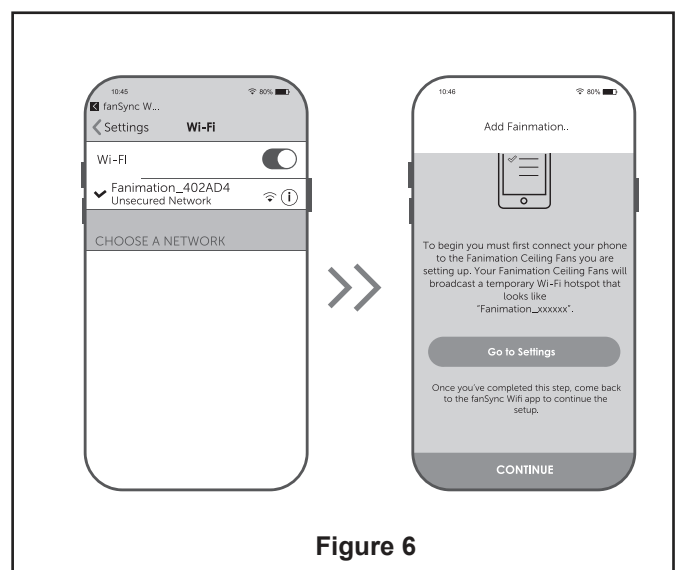

Figure 6
### ☐ 8. Remote Control Speed (RPM) Setting Process : (Figure 6)
- ☐ 6. In the WiFi settings on your smart device, select the Fanimation\_XXXXXX device and return to the fanSync WiFi app and press" CONTINUE". (Figure 6)